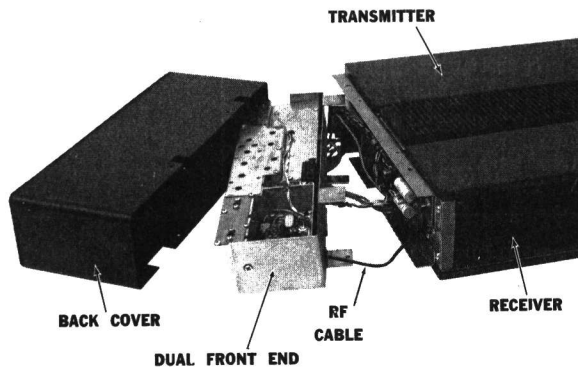

Figure 6 - Dual Front End Disassembly
2. Remove the four screws holding back cover to system frame. Slide cover back and lift off (see Figure 6).